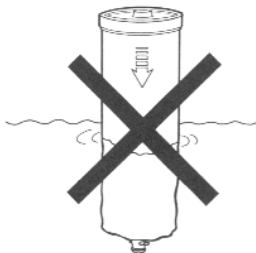

FIGURE 9
**The carbon-block filter doesn't require submersion in water to activate it. DO NOT SOAK THE CARBON-BLOCK FILTER IN WATER PRIOR TO USE. (FIGURE 9)**